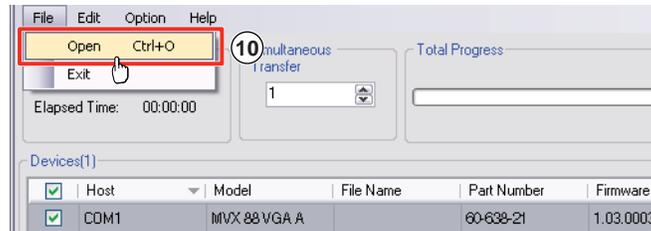

Figure 32. Extron Firmware Loader Window
9. Click **Tools > Update** firmware. The Extron Firmware Loader appears (see **figure 32**).